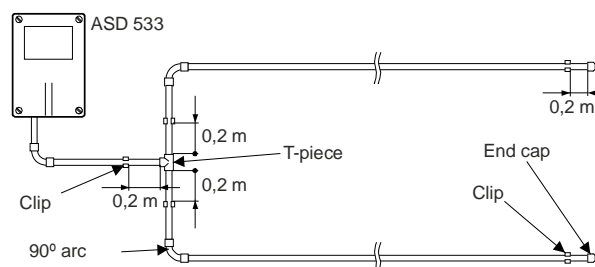

Fig. 22 90° bend, branching point
- A distance of at least 0.2 m must be maintained from the T-piece to the clips, starting from the branching points of the sampling pipe, **Fig. 22**.
- For changes of direction in the space surveillance, it is advisable to use 90° bends rather than 90° angles, **Fig. 22** (see also Sec. 4.4.2).